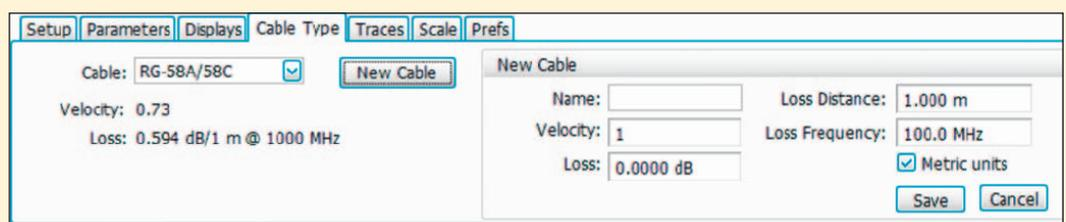

Figure 6: Selecting a cable type or defining a new cable
7. Select the Cable Type tab and specify the cable type. If the cable type is not listed, you can add a cable by clicking the New Cable button. This provides access to the New Cable panel where you can add a name, propagation velocity constant, and loss for the cable as shown in Figure 6.